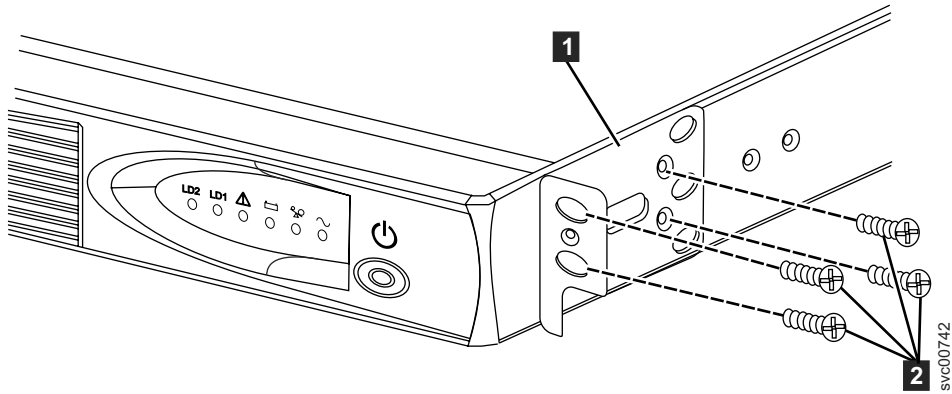

Figure 8. Installing the 2145 UPS-1U mounting brackets for the 2145 UPS-1U
3. Attach the long side of a mounting bracket **1** to each side of the 2145 UPS-1U using four M3 × 6 screws **2** for each bracket, as shown in Figure 8 on page 18.